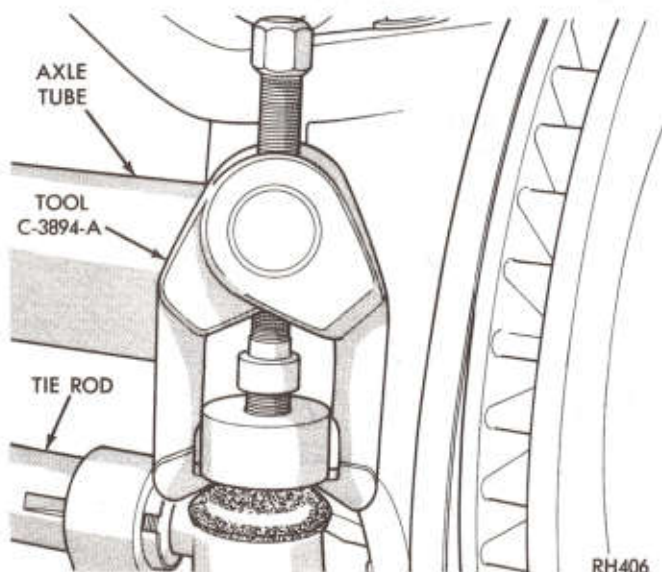

Fig. 25—Removing Tie Rod with Tool C-3894-A
(1) Raise vehicle to a comfortable working height and install jack stands.
(2) Turn wheels in direction necessary to give best possible access to tie rod end. Remove cotter key and nut. Loosen clamping bolt nut.
(3) Install puller Tool C-3894-A (Fig. 25). Apply sufficient pressure with tool to free tie rod end from steering knuckle. Measure and record approximate distance from end of tie rod to outside edge of tie rod end. Unscrew tie rod end.